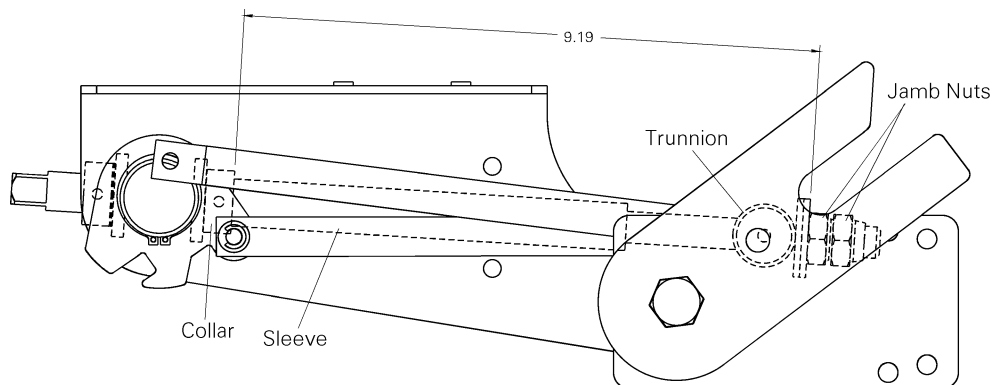

Figure 37. Draw-out mechanism adjustment.
1. With the trunnion against the jamb nut washers, check that the distance between the edge of the washers and the collar is 6.16 inch, as illustrated in Figure 37. To adjust this dimension, loosen and rotate the jamb nuts appropriately, then retighten the nuts.